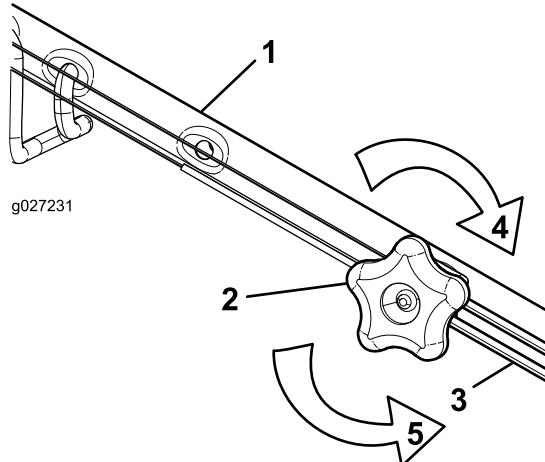

Figure 32
- Turn the adjustment knob counterclockwise to loosen the cable adjustment (Figure 32).
- Adjust the tension on the cable (Figure 32) by pulling it back or pushing it forward and holding that position.